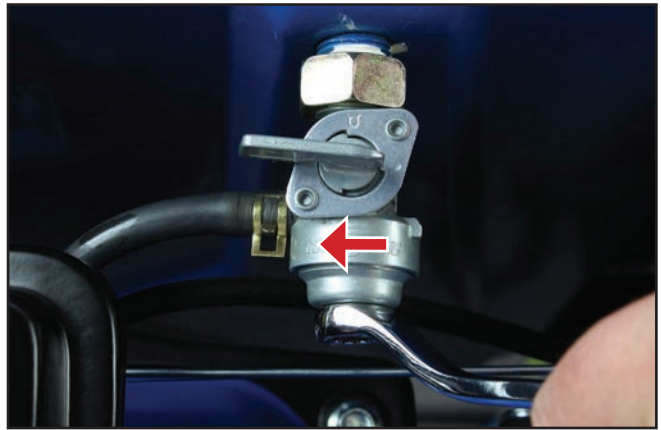
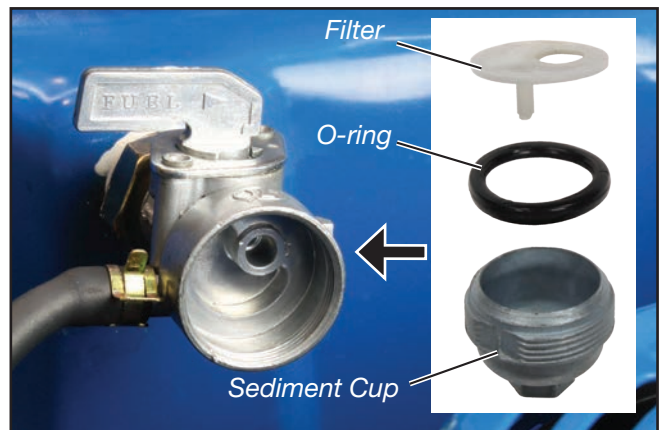

Figure 44 – Removing Fuel Sediment Cup
Figure 45 – Fuel Sediment Cup, O-ring and Filter
6. Unscrew the sediment cup anti-clockwise (see Figure 44) taking care to hold it with one hand to prevent it from dropping onto the ground and spilling its contents. Remove also the O-ring and sediment filter (see Figure 45) by hand.